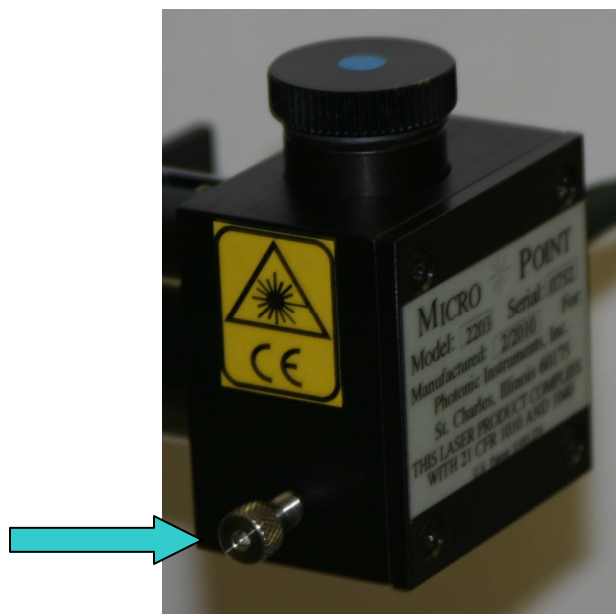

Figure 3-17: Dye Cell Locking Thumbscrew
d) Tighten the Dye Cell set screw (Figure 3-17).